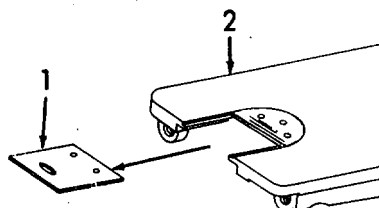

Figure 2-24. Slide Plate, Removal.
- (3) Refer to Figure 2-24 Pull the slide plate(1) from the machine bed (2).